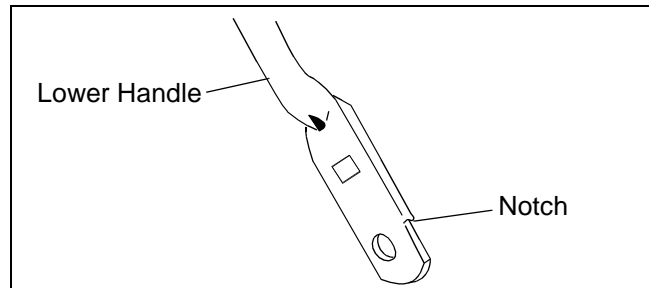

Figure 8
- Turn the lower handle around so that the notch on the bottom of the lower handle is facing forward as shown in Figure 8. Reassemble placing the bottom holes in the handle over the weld pins in the handle mounting bracket.